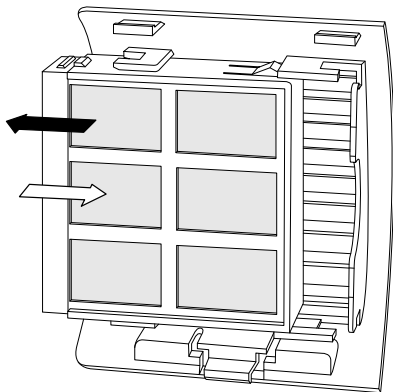

Fig. 46: Sliding out the filter cassette
2. Slide the filter cassette out from the cover of the air inlet, as shown in Fig. 46.